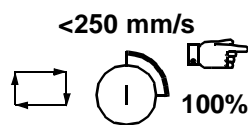

Figure 14 The maximum speed during manual operation is 250 mm/s.
1. Make sure that the operating mode selector is in the < 250 mm/s position, as shown in Figure 14.